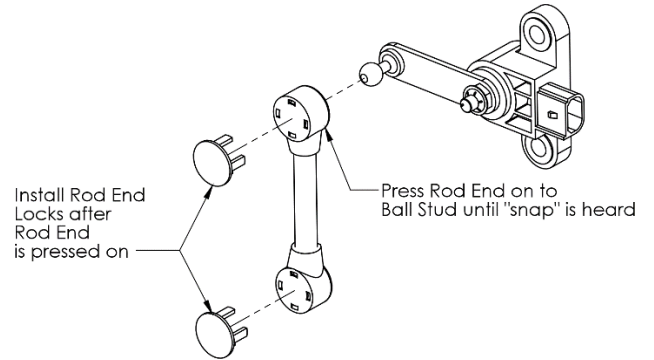

Figure 16. Height Sensor Plastic Linkage End Installation
1. Install Height Sensors as shown above. Refer to **Figure 16** or **Figure 17** for detail of linkage.